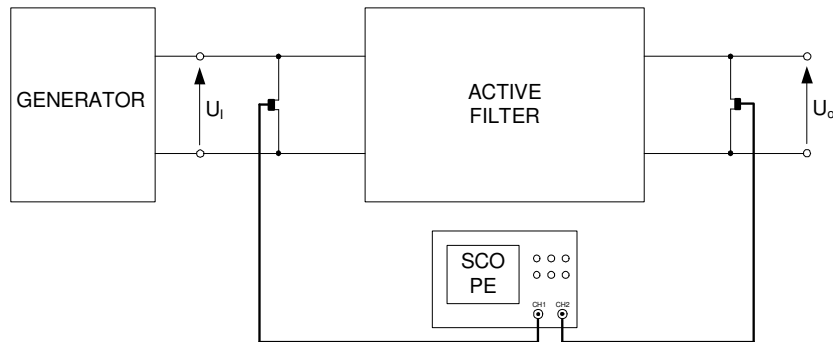

Fig.3. Active filter measurement setup.
3. Assemble the measurement setup as in Fig.3.